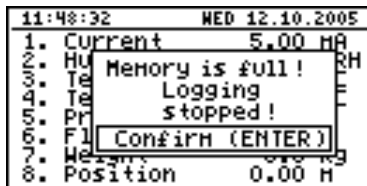

Fig. 7.15. Warning in "until full" recording mode
- "until full"** - once the entire available memory is filled with recorded measurement results the recording will be stopped and a warning message (Fig. 7.15) shall be displayed; this warning message must be confirmed with the [ENTER] key. This warning shall be repeated when the unit is switched on. Instead of "Time left" parameter in the "Device information" menu the display will show the "Logging stopped" message. The recording will be restarted only when the collected measurement results are downloaded to a PC (once unit's memory is free). If the collected measurement results will be downloaded to a PC before memory is full, the warning message will not be displayed.